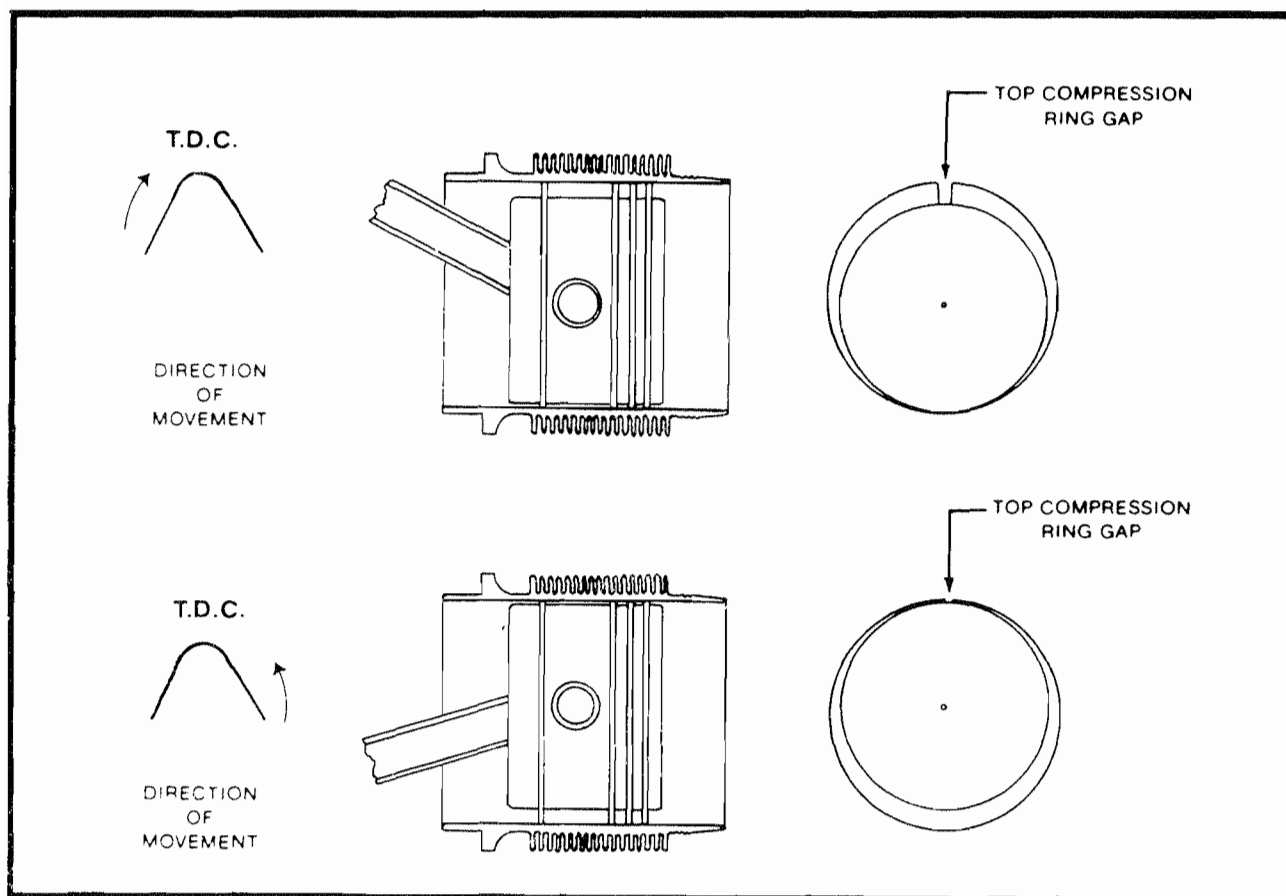

FIGURE 9-4.
12. If the leakage is below the previously determined low cylinder gage reading, loss past the dynamic seal may be due to piston ring end gap alignment or by the piston and piston rings' angular direction in the cylinder bore (Figure 9-4). First assure that the piston and piston rings are centered. This may be accomplished by reducing regulator pressure to 20 p.s.i. and working piston through TDC several times, bringing the piston to TDC in the normal direction of engine rotation. Adjust regulated pressure to 80 p.s.i. and determine amount of loss. If the gage reading is higher than the previously determined master orifice calibrated reading, proceed to next cylinder to be test.
NOTE . . . Piston ring rotation within the ring land is a normal design characteristic. As illustrated in Figure 9-4, the compression ring location may have a direct bearing on the dynamic seal pressure check. Therefore, it's suggested the test be completed in the opposite direction if readings are below prescribed limits.